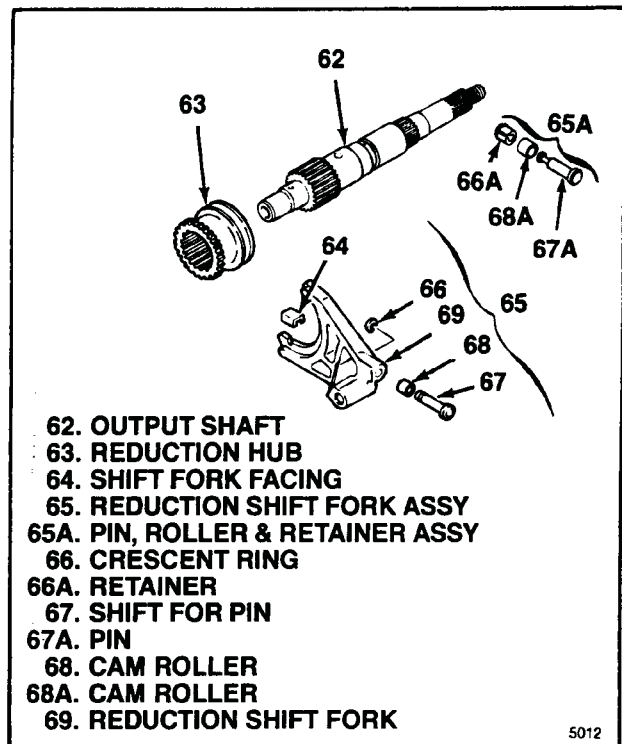

Figure 3-9. Reduction Shift Parts
**3-14. REMOVAL OF REDUCTION SHIFT PARTS.** From remaining transfer case assembly (62 through 121), remove the following (see figure 3-9):
- a. Remove output shaft (62), reduction hub (63) and reduction shift fork assembly (65) from transfer case.
- b. Remove two facings (64) from shift fork assembly (65).
- c. Disassemble fork assembly (65) only if parts replacement is required:
1. If fork assembly (65) has metal crescent ring (66), remove this freeing pin (67) and cam roller (68).
2. If fork assembly (65) has plastic retainer (66A), cut retainer to remove, freeing pin (67A) and cam roller (68A).